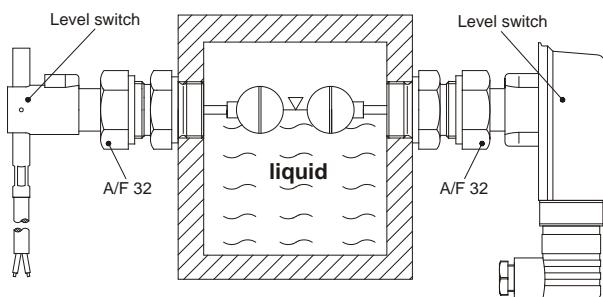

Fig. 3
- ↳ Install the level switch as shown in Fig. 3.